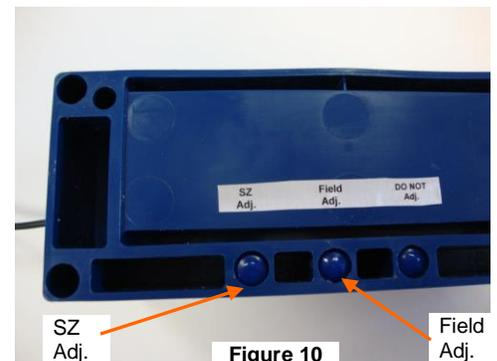

Figure 10
3. Remove the blue rubber seal from the hole labeled “Field Adj.” (center hole) in the module housing. (See Figure 10)
1. Remove the blue rubber seal from the hole labeled “SZ Adj.” (left hole) in the module housing. (See Figure 10)